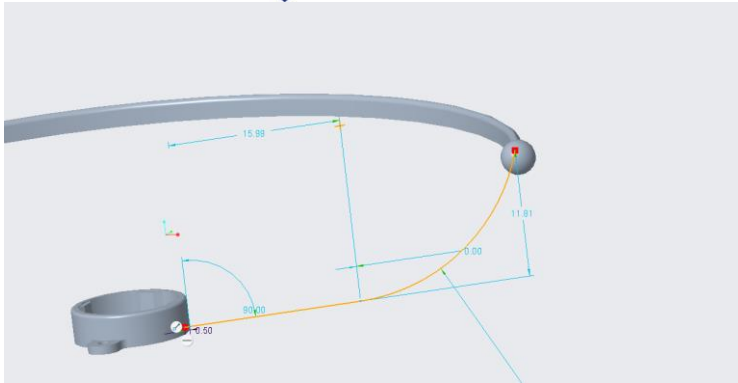

fig1.9
- Draw the sweep section as shown in fig 1.9.